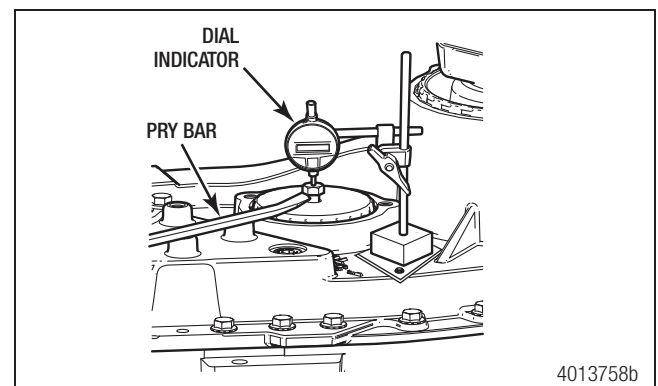

Figure 7.56
6. Set up the dial indicator to check the idler shaft bearing end play as shown. To mount the dial indicator, bolt a steel plate onto the case and place the magnetic base on it. Center the dial indicator on the bolt head. Zero the indicator. Figure 7.56.